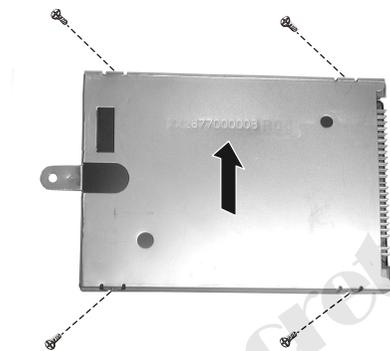

Figure 2-9 Remove hard disk drive
4. Remove four screws to separate the hard disk drive from the bracket, remove four screws. (Figure 2-9)